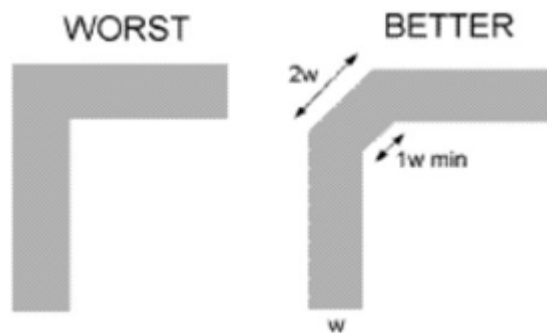

Figure 6. Signal Trace Bending
- Figure 6. Signal Trace Bending5